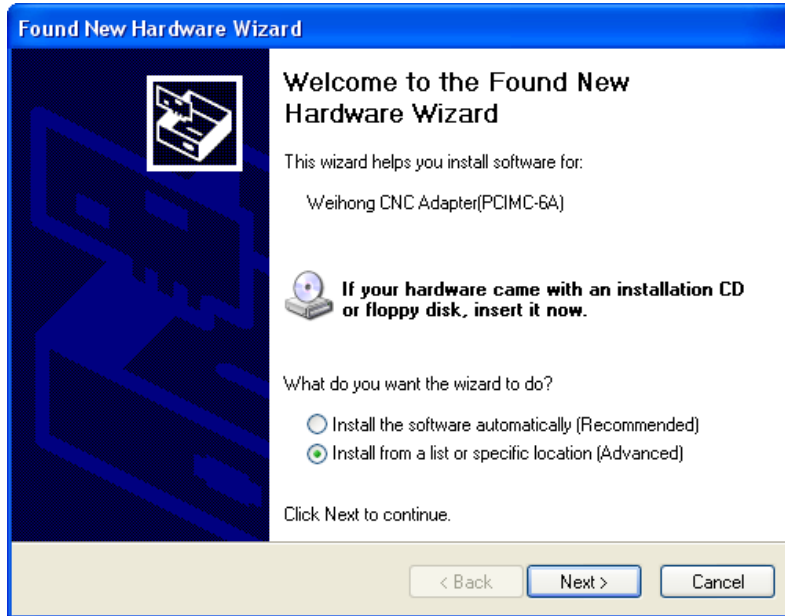

Fig. 2-7 Found new hardware wizard
- 1) Right click “My Computer”, select “Properties”, and then click “Device Manager”. Choose CNC Adaptor, right click “Weihong CNC Adaptor (PCIMC-Lambda)” and select “Update Driver Software...”. A dialog as Fig. 2-7 will pop up.